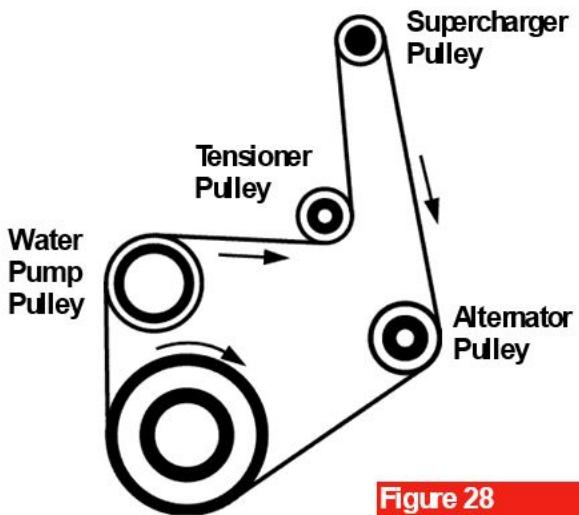

Figure 28
6. Place the drive belt over the water pump pulley, the crankshaft pulley and the alternator pulley (figure 28). *Make sure the belt is on the correct sides of and properly seated in the grooves of each pulley.*